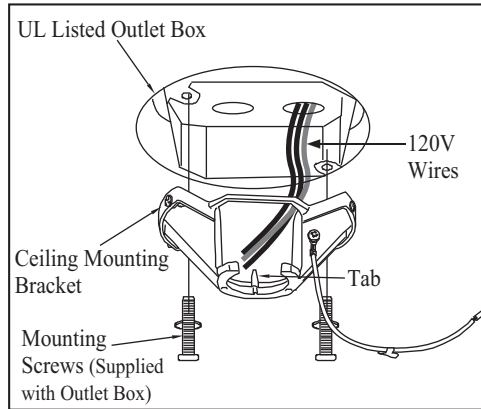

Figure 11
1. Pass the 120-volt supply wires through the center hole in the ceiling mounting bracket as shown in Figure 11.
2. Install the ceiling mounting bracket on the outlet box with the screws and washers provided with your outlet box. (Figure 11) When using “close-to-ceiling” mounting, it is important that the mounting bracket be level. If necessary, use leveling washers (not included) between the mounting bracket and the outlet box. Note that the flat side of the mounting bracket is toward the outlet box. (Figure 11)